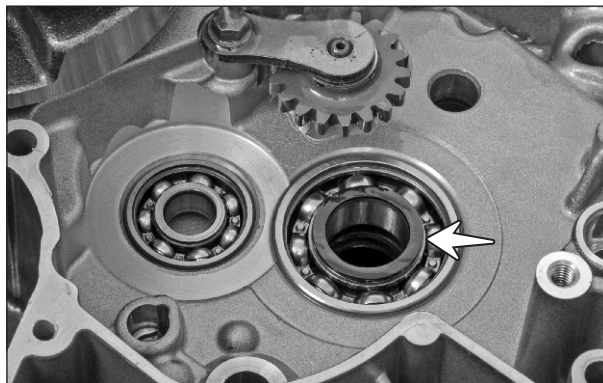

Fig. 3.152
- Take out thrust washer from the drive shaft assembly gear 2nd driven seating area. (Fig. 3.152)